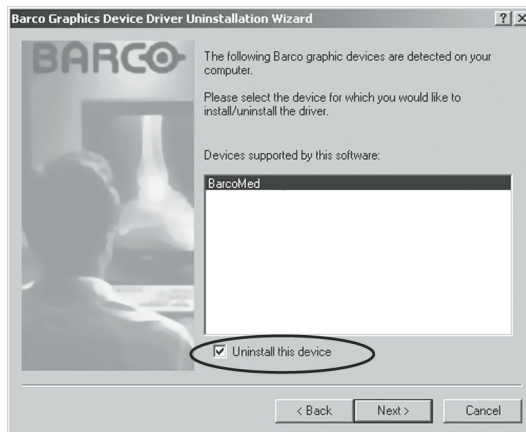

Figure 52
5. On the next screen (figure 52), **check** the checkbox next to "Uninstall this device" and click **"Next"** to continue.